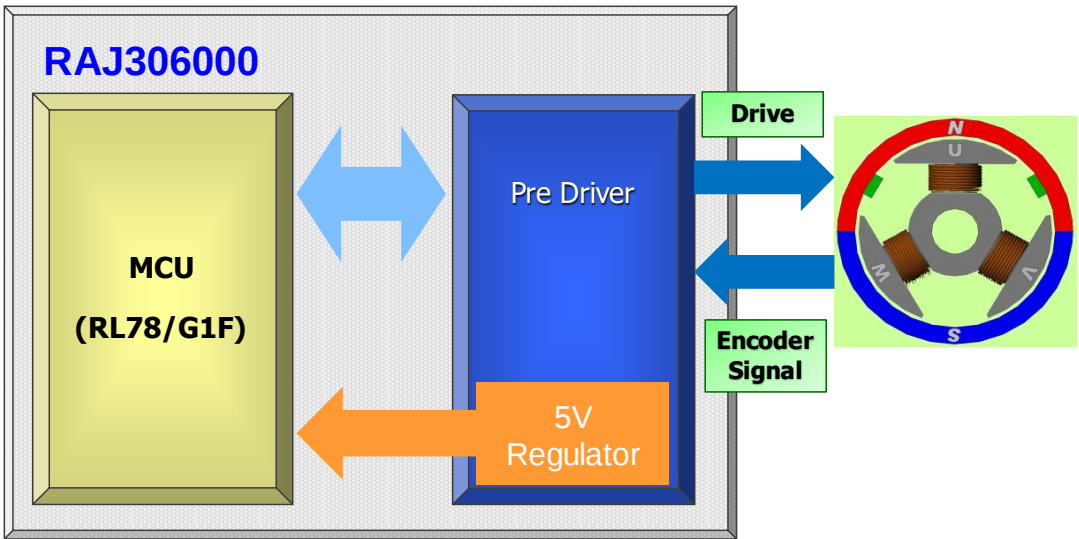

Figure 1-1 RAJ306000
- 2. The configuration of RAJ306000 which is a SIP product containing MCU (RL78/G1F) and PreDriver is shown in Figure 1-1.